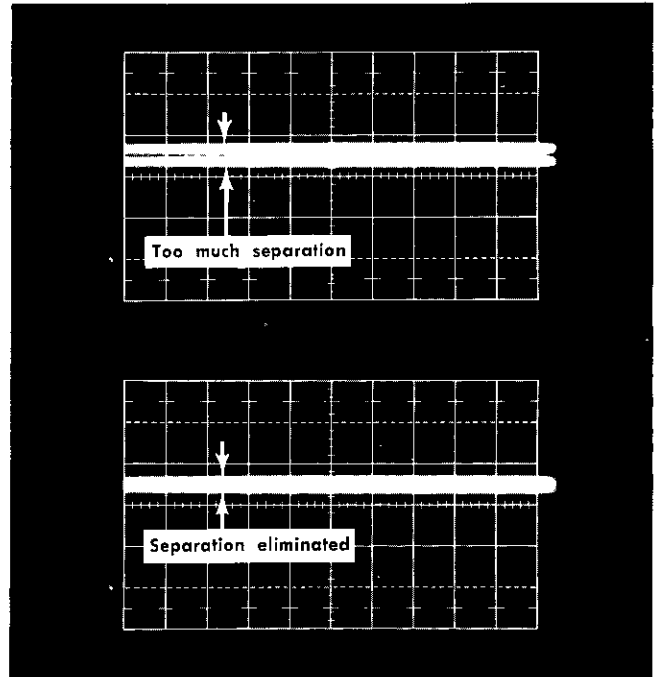

Fig. 6-13. Noise waveforms, step 7. Sweep rate 5 μs/div; deflection factor 1 mV/div.
h. Decrease the + TRANSITION AMPLITUDE to a point where the dark line between the two traces is just eliminated. Use Fig. 6-13 as a guide. (The desired presentation is obtained when a point is reached where doubt exists as to whether the dark line is or is not eliminated.) The two traces are now separated by noise.